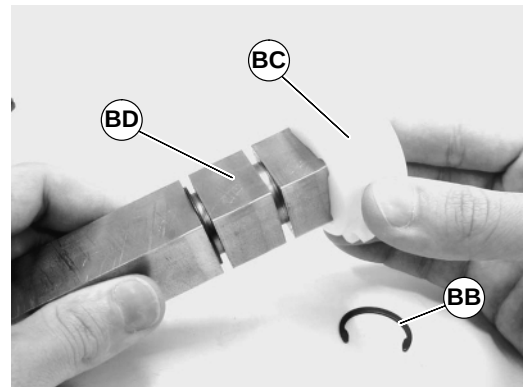

Figure 34
7. Remove snap rings (BB of Figure 34). Slide drive sprocket (BC) off the end of pulley (BD).